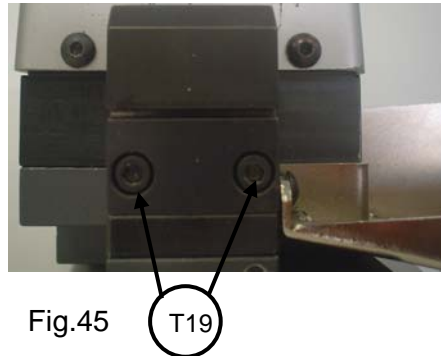

Fig.45
- 1) Once you have removed the automatic clamp, unfasten the two screws (T19) and remove the set of clamps (Fig.45).